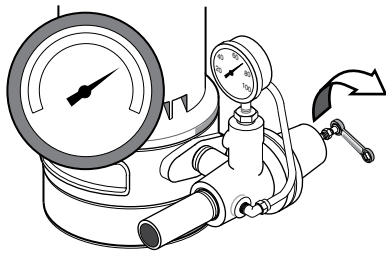
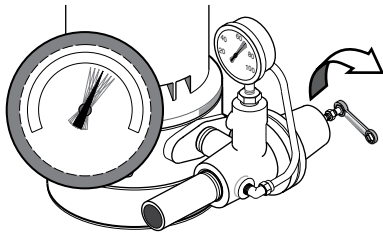
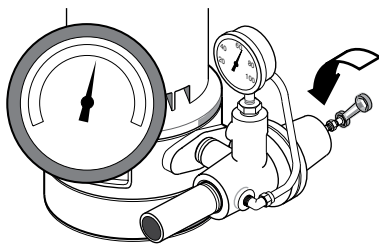

Figure 14A: Open Regulator Valve
Figure 14B: Watch for Pressure Gauge to Flutter
Figure 14C: Close Regulator Valve until Pressure Stabilizes
Step 4. Once unit has primed and pressure stabilized, slowly open (turn counterclockwise - Figure 14A) regulator valve until pressure falters (pressure gauge needle flutters; pump may become noisy - see Figure 14B). At this point, close (turn clockwise) regulator valve slightly until pressure stabilizes. This setting provides maximum flow (Figure 14C).